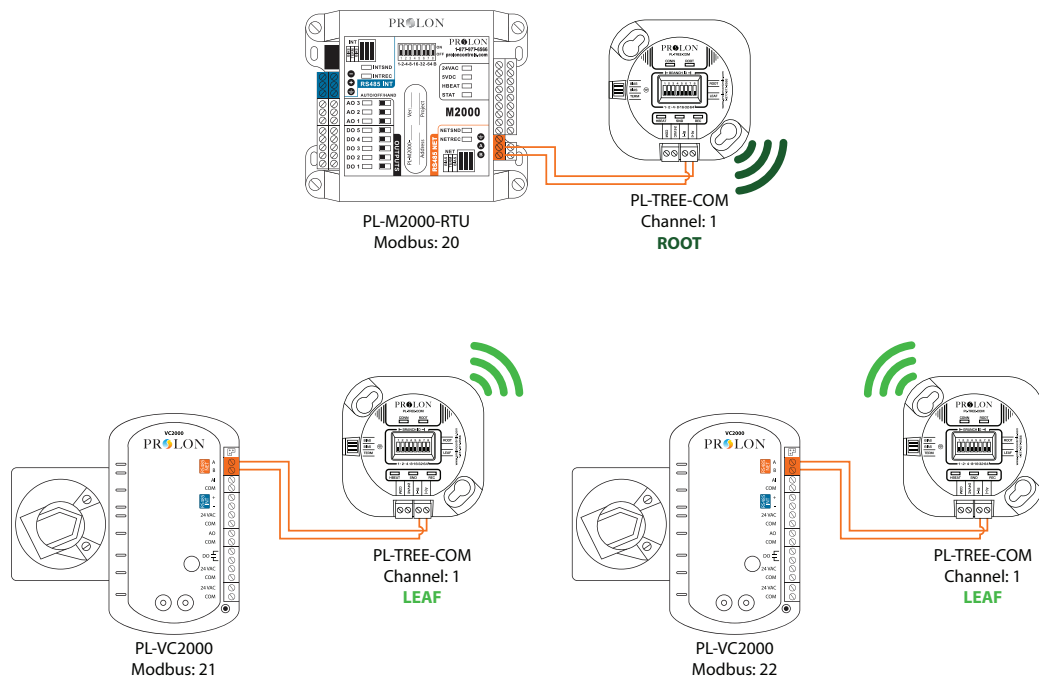

Figure 1
2. Its goal is to wirelessly extend, complement, or replace standard RS485 wired daisy-chains, where a physical connection would be impractical or uneconomical. (Figure 1)